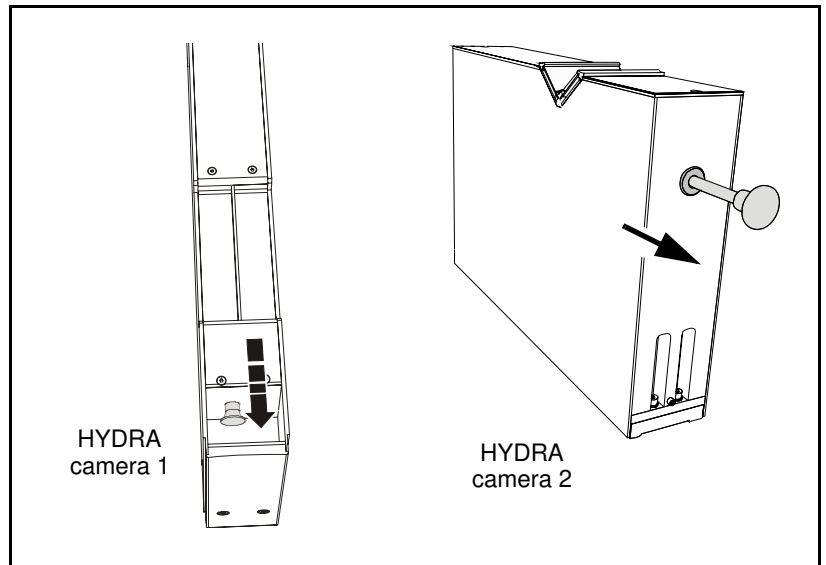

Figure 18-3. Knobs of HYDRA camera 1 and 2.
- Remove dropped components from the camera glass by pulling the knob at the front of the HYDRA camera box, see Figure 18-3.